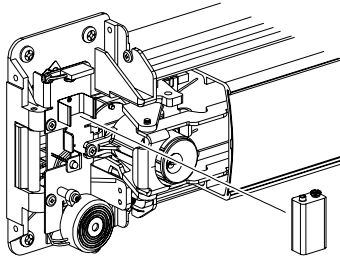
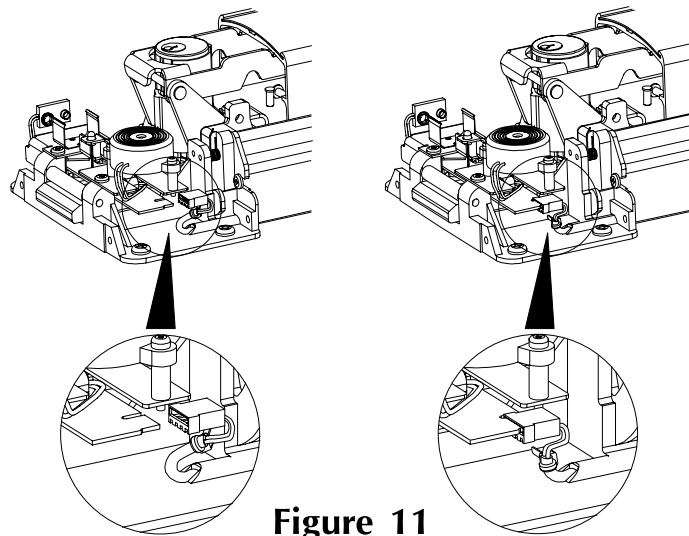

Figure 10
Figure 11
- 8** Install 9 V battery and attach battery clip to battery (Figure 10). If using PT790 Plug-in Transformer Option, connect transformer cable (Figure 11).